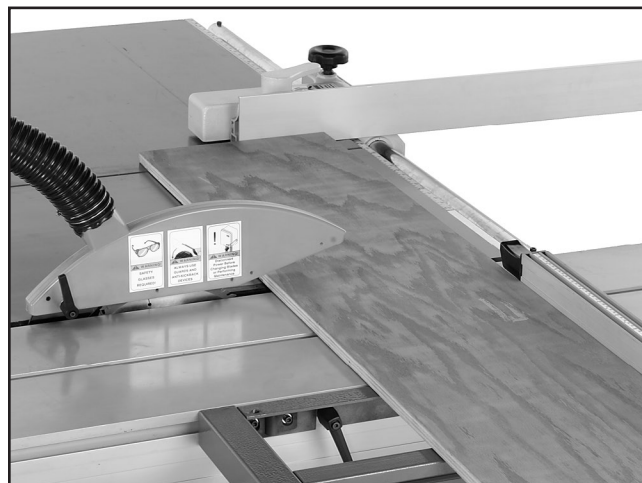

Figure 59. Crosscutting workpieces using the rip fence as a cut-off gauge.
This machine can also crosscut workpieces while using the rip fence as a cut-off gauge (**Figure 59**).
4. Load the workpiece onto the table saw. The setup should look similar to **Figure 59**.